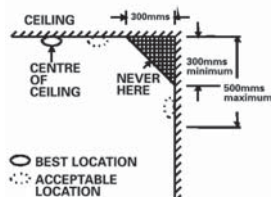

Figure 4
- Install smoke alarms as close to the centre of the ceiling as possible. If this is not practical, put the alarm on the ceiling, no closer than 300 mm from any wall and 600 mm from any corner, as shown in Figure 4.
When mounting a smoke alarm on a wall, use an inside wall with the top edge of the alarm a minimum of 300 mm and a maximum of 500 mm below the ceiling and at least 600 mm from any corner, as shown in Figure 4.